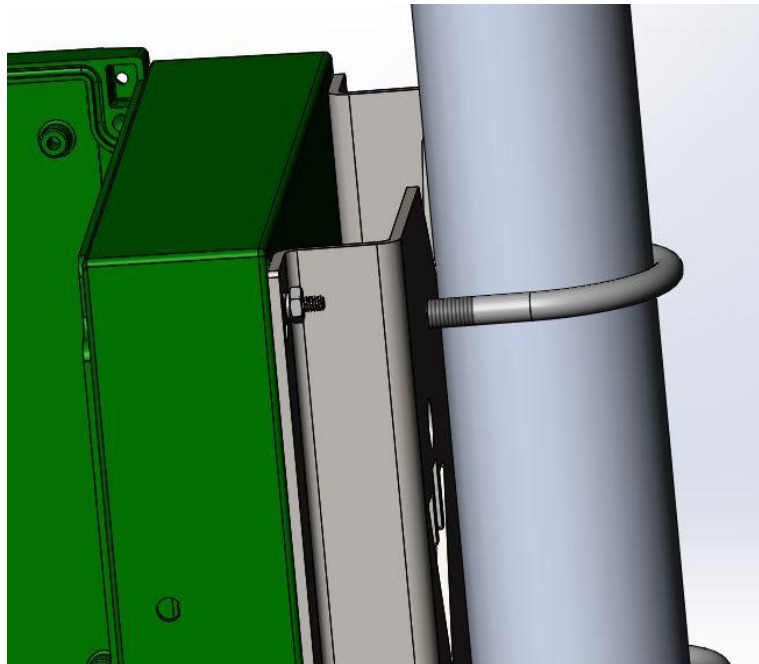

Figure 2-21. Installing Lock Washer and Nut to Screw
11. Using the lock washers and nuts provided, place a lock washer over the screw threads and start threading a nut on as shown in Figure 2-21. Tighten the nut by hand first to allow for the remaining screws to be installed.